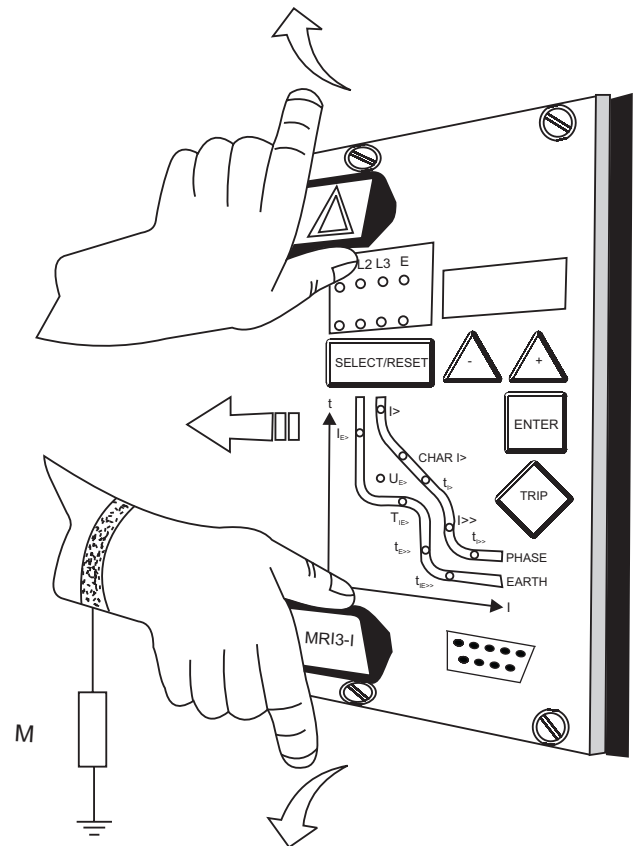

Fig. 5.3 Withdrawl of the Relay
- Push then the two toggler levers outwards (as shown in fig. 5.3)